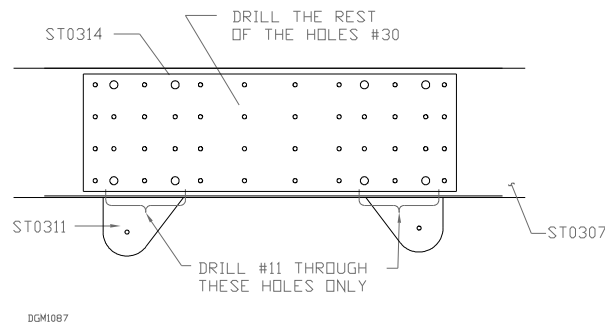

Figure 2.5.2
2. Drill the two sets of twelve holes that are common to all four parts to #11. See Figure 2.5.2.
4. Drill the remaining #40 holes that are common to Main Spar Tripler [ST0314] to the Main Spar [ST0307] to #30. Figure 2.5.2.